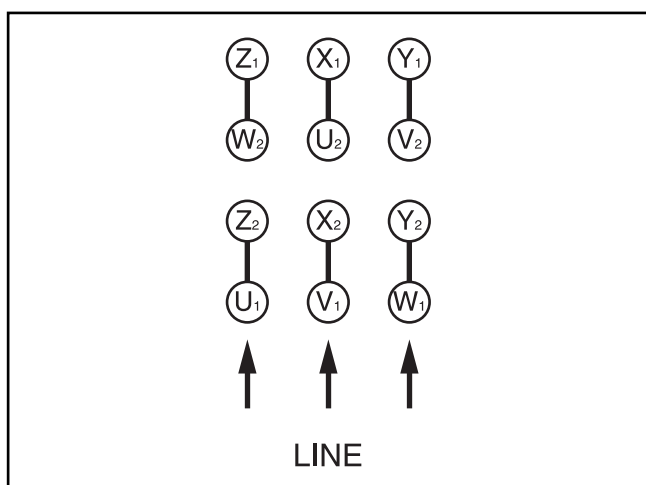

Figure 5. Main motor 440V wiring.
5. Wire the main and elevation motors as shown on the diagrams on the inside of each motor wire cover. Note—*The circled references on the diagrams represent labels on the wires.* Also, **Figures 5 & 6** below have been provided for your reference and are current at the time that this manual was written. However, always use the diagram on the wire cover that comes with your motor!